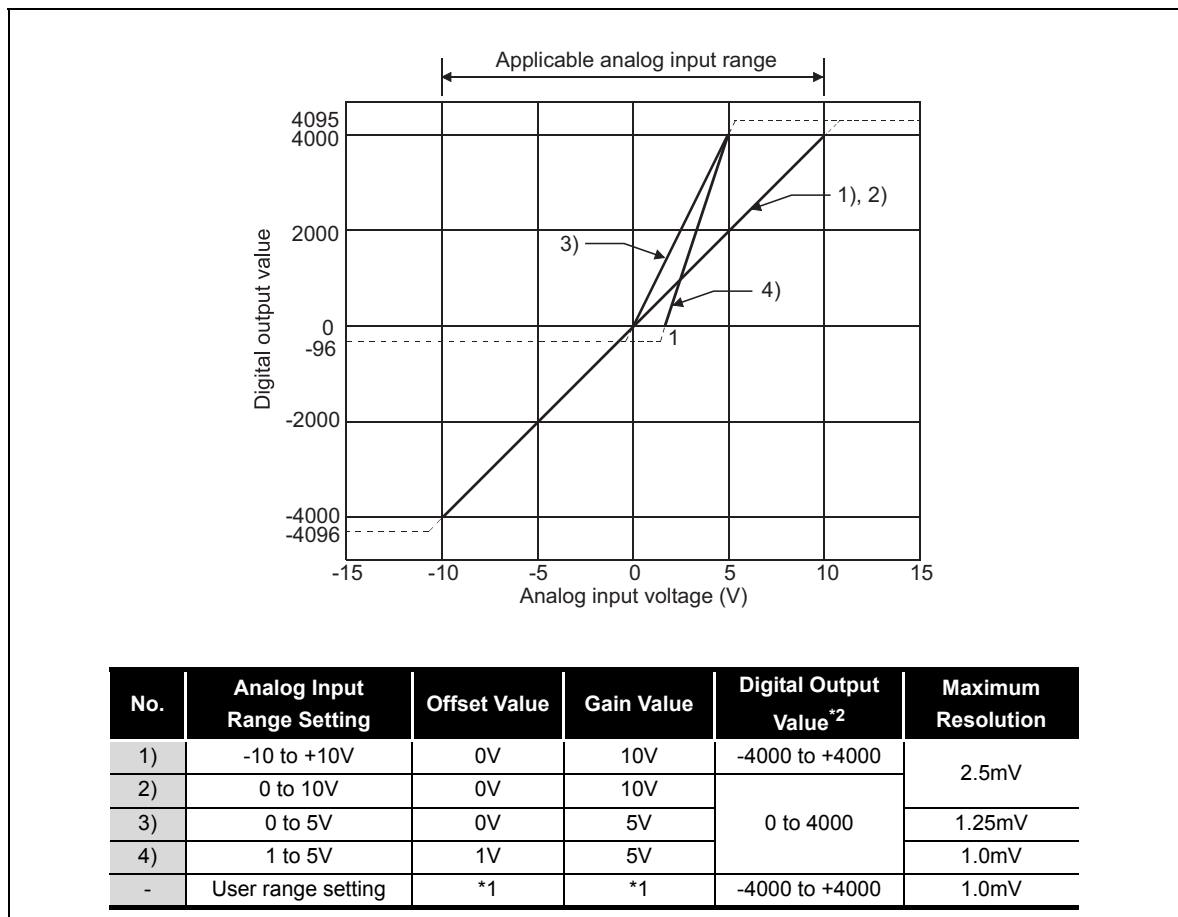

Figure 3.1 Input characteristics of ST1AD2-V
- (1) Within the analog input and digital output scopes of each input range, the maximum resolution and accuracy are within the performance specification range. Outside those scopes, however, they may not fall within the performance specification range. (Avoid using the dotted line part in Figure 3.1.)
- (2) Do not input more than $\pm 15V$. The element may be damaged.
- (3) Set the offset/gain values for the user setting range *1 within a range in which the following conditions are satisfied.
- (2) Do not input more than $\pm 30\text{mA}$. The element may be damaged.